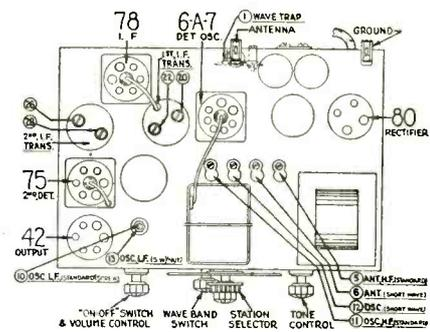

Fig. 2. Chassis of Philco 610, showing locations of capacity adjustment screws.
The locations of the compensating condensers are shown in Fig. 2. For adjusting the i-f, remove antenna from receiver, disconnect the grid clip from the 6A7 and connect the output terminal of a signal generator to the grid of this tube. Connect ground of signal generator to the ground terminal of the receiver.
Next turn the waveband switch to the extreme right (short-wave band) and adjust the station selector to 18.0 megacycles. Then adjust the oscillator S. W. and antenna S. W. compensators for maximum. These are numbered (12) and (6) respectively in Fig. 2.